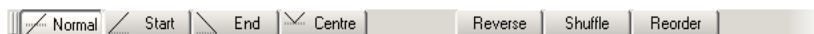

Figure 15.11. The Fanning Toolbar
- Press and hold the Fan key to display the Fanning Toolbar; see *Figure 15.11*, "The Fanning Toolbar".